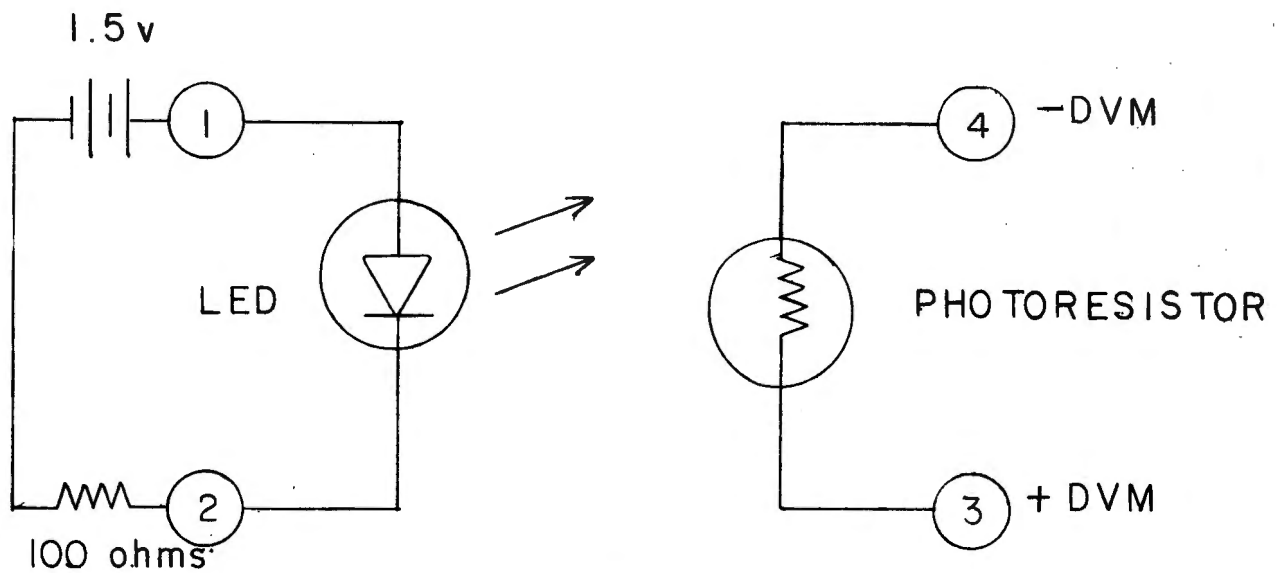
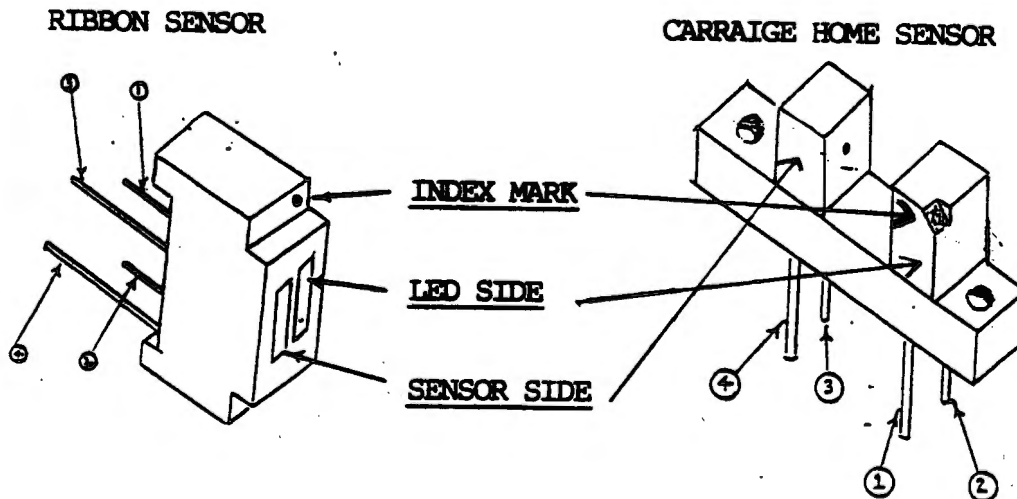

FIGURE 1
FIGURE 2
1) Measure the front to back resistance ratio of the LED (refer to figure 1) using the R x 200K scale. The LED should read near infinity in one direction and approximately 160k ohms in the other. If it does not replace the sensor.
2) Connect the positive probe of the multimeter to pin 4 of the ribbon sensor and the negative probe to pin 3 (refer to figure 2). The meter should read infinity. If it does not the sensor is bad; replace it.
3) Connect the positive probe to pin 3 and the negative probe to pin 4 (refer to figure 2). Ambient light should be sufficient to cause a decrease in the ribbon sensor's resistance to approximately 90k ohms. By covering the sensor with a finger, the reading should change to infinity. If the sensor does not change then replace it. The carriage home sensor requires the LED to be activated in order to read the sensor. To activate the LED (refer to figure 1) connect the positive end of a 1.5v battery to the pin 1 (anode) of the sensor. Connect the negative end of the battery to a 100 ohm resistor and connect the resistor to pin 2 (cathode). Connect the positive probe of the multimeter to pin 3 and the negative probe to pin 4. By placing a piece of paper between the LED and the photo resistor a change should be noted. When the paper is inserted the meter should read infinity and when the paper is removed the meter should read approximately 90k ohms. If it does not, replace the sensor.